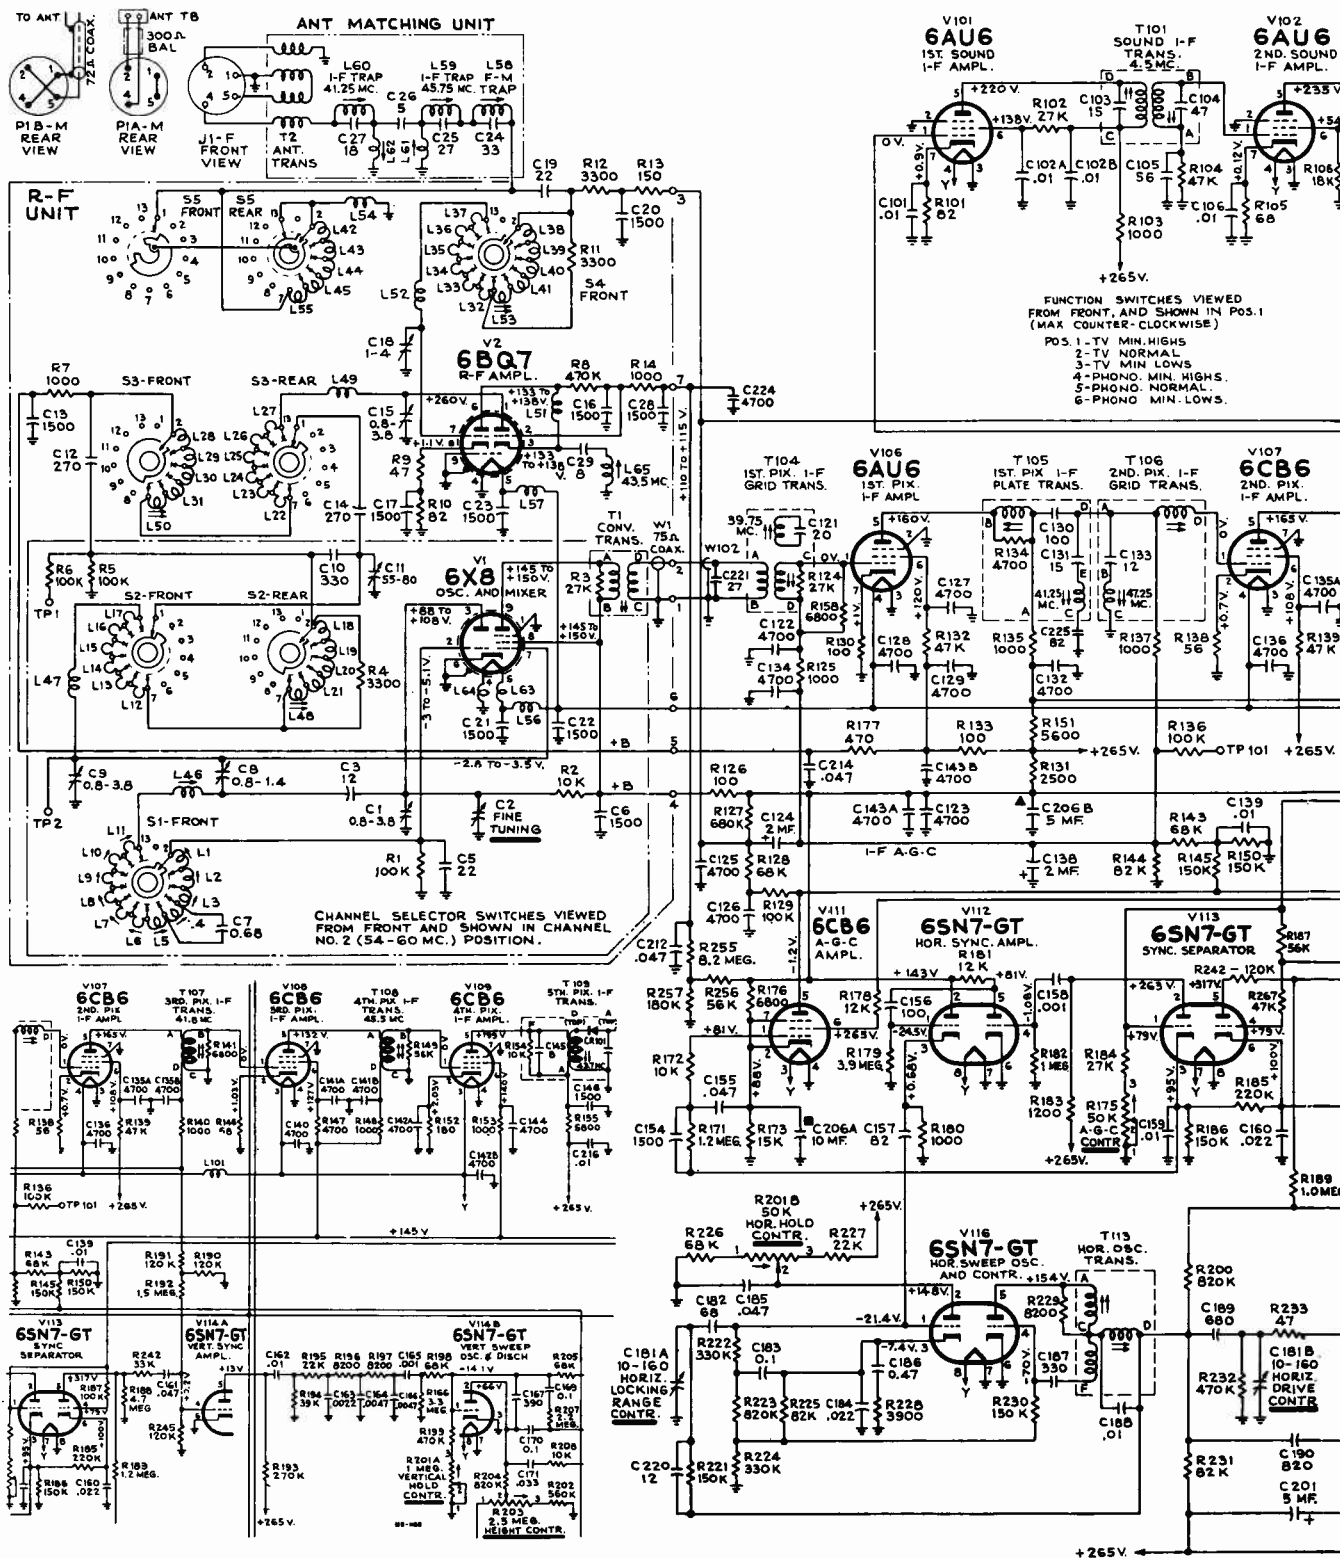

Figure 18—Horizontal Oscillator Waveforms
B.—Connect the low capacity probe of an oscilloscope to terminal C of T113. Turn the horizontal hold control one-quarter turn from the clockwise position so that the picture is in sync. The pattern on the oscilloscope should be as shown in Figure 18. Adjust the waveform adjustment core of T113 until the two peaks are at the same height. During this adjustment, the picture must be kept in sync by readjusting the hold control if necessary.